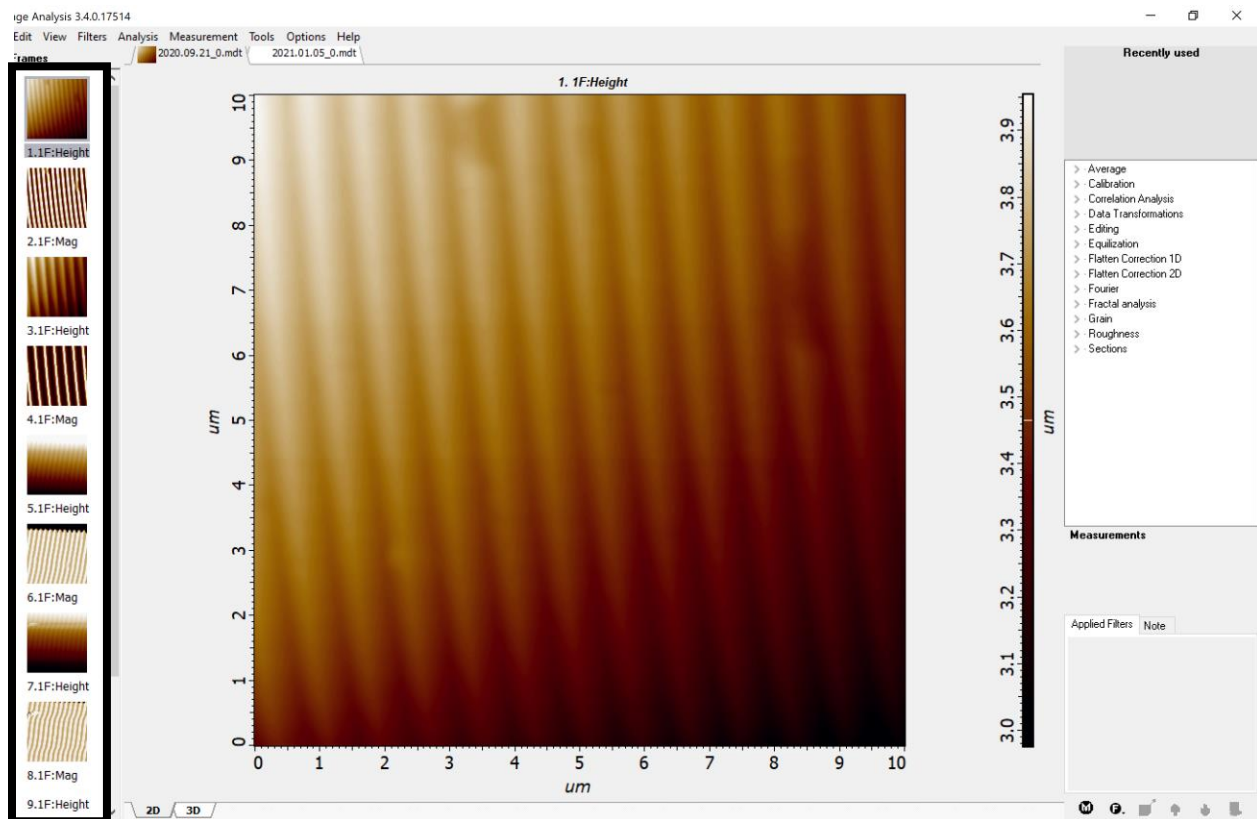

Figure 26: Data menu
- The left side of the data menu is the data tree that is automatically generated (Figure 26).